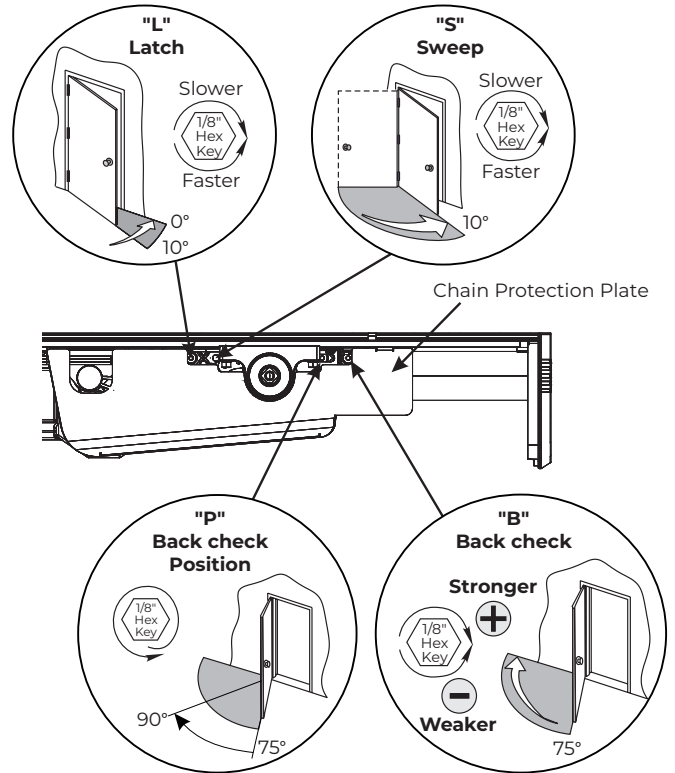

Fig. 21 View from ceiling looking down
- Chain protection plate cutouts allow access to valves. Use 1/8" hex wrench to make adjustments. (Fig. 21)
1. Closing Speed Controls (Fig. 21)
2. Opening Cycle (Fig. 21)